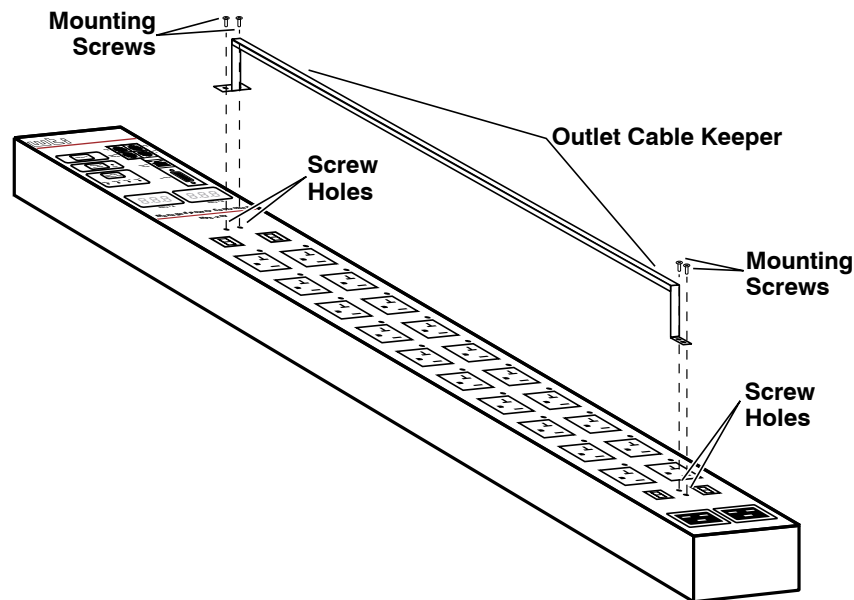

Figure 10: Installing the Output Cable Keeper (MPC-20V Units Only)
2. Align the Output Cable Keeper with the face of the MPC-20V unit as shown in Figure 10 below. Note that there are two horizontally aligned screw holes at the top of both the MPC-20V unit, and two vertically aligned screw holes at the bottom of the MPC-20V unit. Use the supplied mounting screws to securely attach the Cable Keeper to the face of the MPC-20V unit.